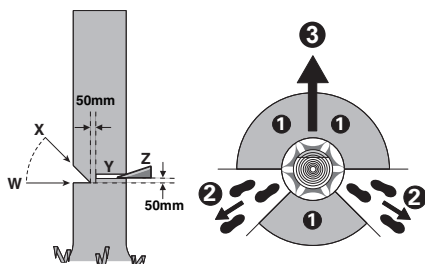

Figure 1
An escape path should be planned and cleared as necessary before cuts are started. The escape path should extend back and diagonally to the rear of the expected line of fall as illustrated in Figure 1. Before felling is started, consider the natural lean of the tree, the location of larger branches and the wind direction to judge which way the tree will fall. Remove dirt, stones, loose bark, nails, staples and wire from the tree.
Make the notch 1/3 the diameter of the tree, perpendicular to the direction of falls as illustrated in Figure 1. Make the lower horizontal notching cut (W) first. This will help to avoid pinching either the saw chain or the guide bar when the second notch (X) is being made.
Make the felling back cut (Y) at least 50 mm higher than the horizontal notching cut as illustrated in Figure 1. Keep the felling back cut parallel to the horizontal notching cut. Make the felling back cut so enough wood is left to act as a hinge. The hinge wood keeps the tree from twisting and falling in the wrong direction. Do not cut through the hinge. As the felling gets close to the hinge, the tree should begin to fall. If there is any chance that the tree may not fall in desired direction or it may rock back and bind the saw chain, stop cutting before the felling back cut is complete and use wedges of wood, plastic or aluminium (Z) to open the cut and drop the tree along the desired line of fall (③). When the tree begins to fall remove the Chainsaw from the cut, stop the motor, put the Chainsaw down, then use the retreat path planned (②). Be alert for overhead limbs falling and watch your footing. (See Figure 1)